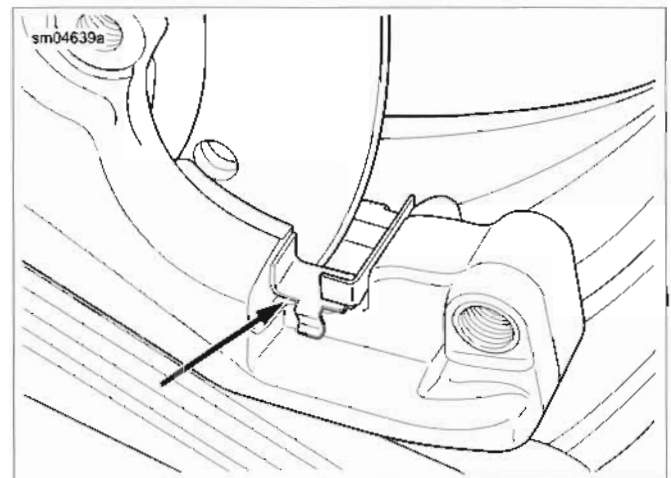

Figure 1-33. Torque Clip
9. See Figure 1-33. Inspect torque clip. Replace parts if necessary.